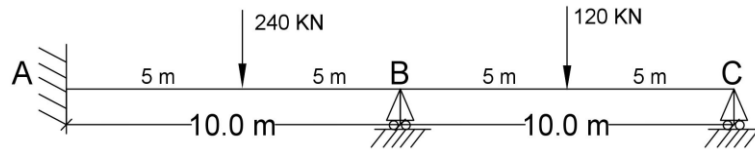

Figure 4.5
5. Analyze the continuous beam shown in figure 4.5. by stiffness matrix method. Draw the bending moment diagram. Take EI constant throughout.